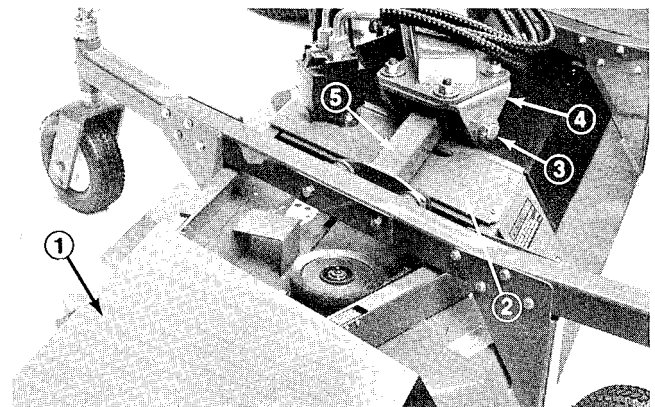

Figure 67
3. Remove flange head screws securing gearbox plate to deck. To separate plate and drive motor assembly from deck, rotate plate end toward traction unit (Fig. 67). Tip plate, motor and pulley assembly on its side and remove from deck. Be careful not to bend, twist, kink or damage flexible hydraulic lines.
4. Remove locknut securing deck pivot shaft into deck clevis and lift bar (Fig. 67).